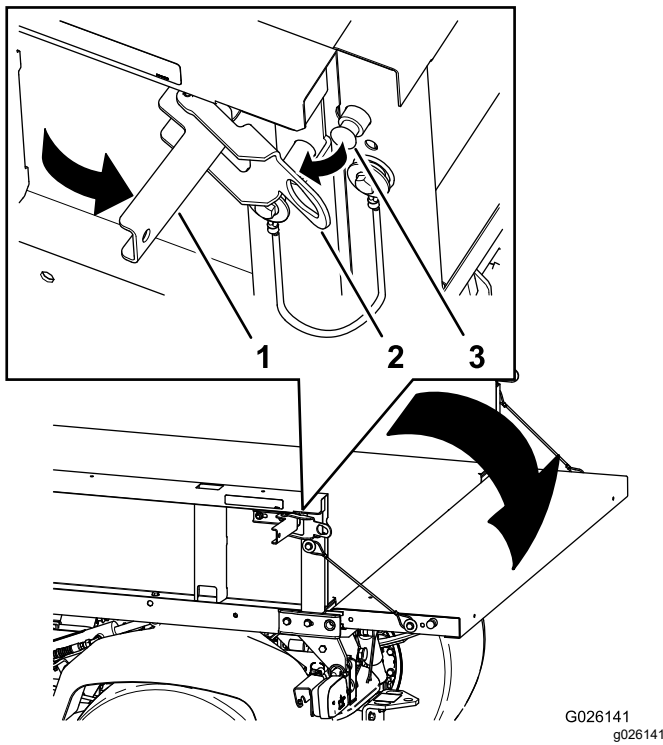

Figure 14
2. Open the latches on the left and right side of the cargo bed and lower the tailgate (Figure 14).